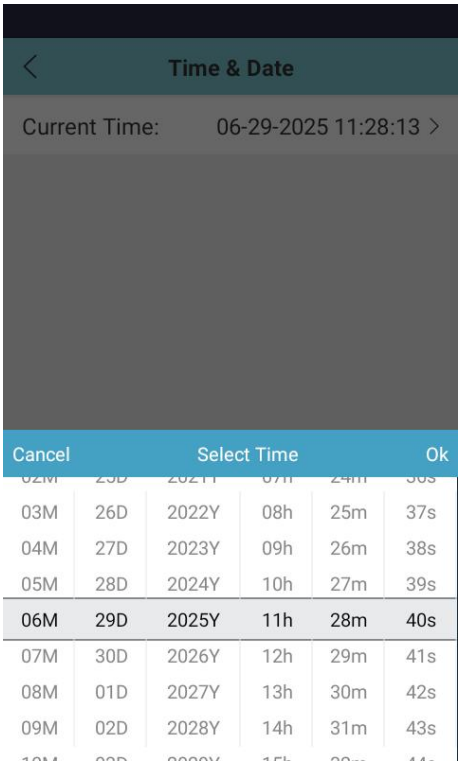

Figure 6.108
- 1) Time and Date: Tap “Time and Date” to open the system clock interface (Figure 6.108). Current system time is displayed. Tap the date/time control to adjust settings.